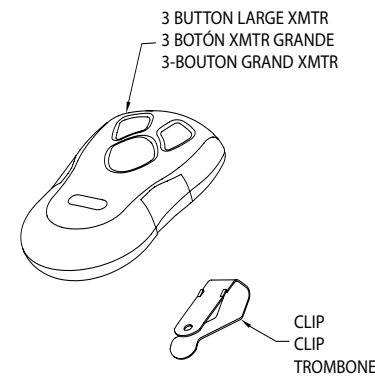

Fig. 2
**Step 5-1** Battery replacement **Fig. 2**.